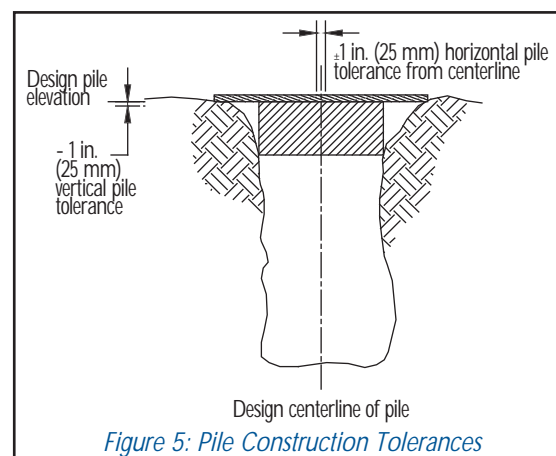

Figure 5: Pile Construction Tolerances
- During the pour of each pile, ensure that the tubing is braced to maintain the correct elevation and horizontal location. Double check with laser and hand levels to maintain tolerance; minor adjustments will have to be made during the pour. Refer to *Figure 5*.